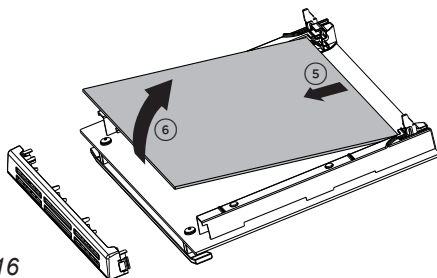

Fig. 4.16
- Gently lift and pull out the middle pane of glass by releasing it from the bottom retaining notches (fig. 4.16).